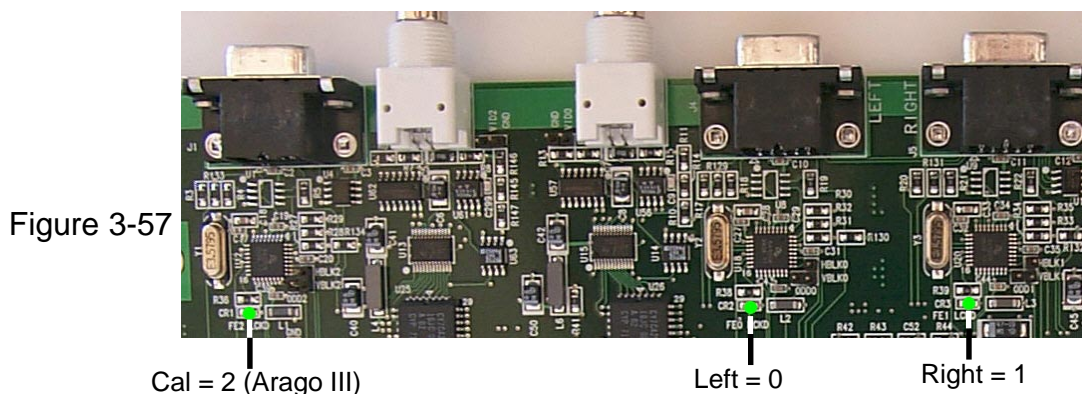

Figure 3-57
7. Verify locked indication as genlock chips initialize in sequence and lights the genlock lights. (Figure 3-57)